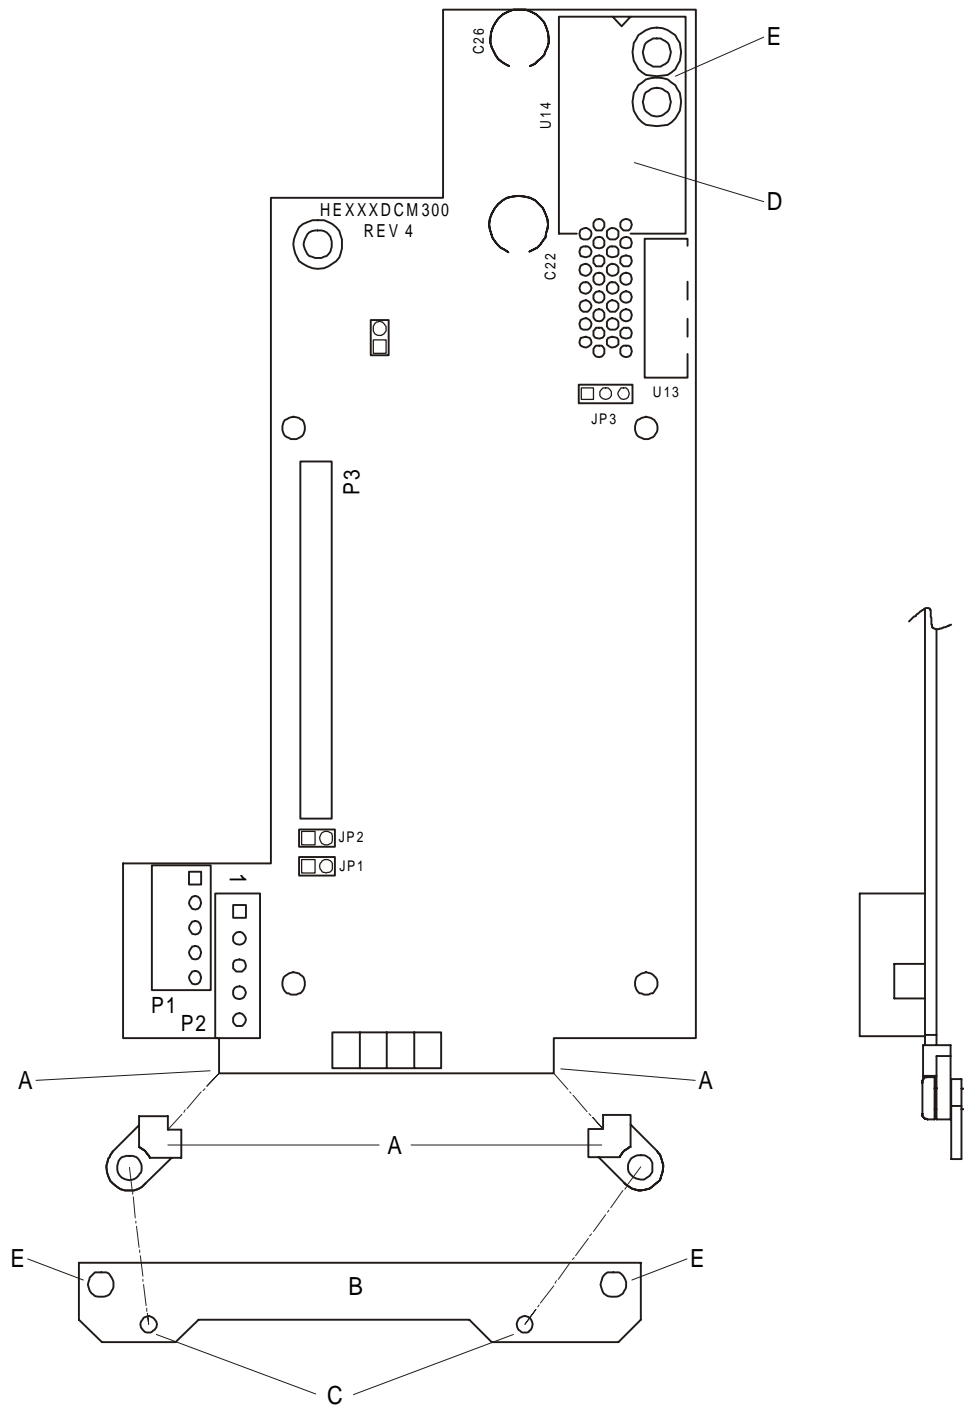

Figure 2.7 – Option Board Assembly (Front and Side View)
2.3 N2 Cable Connector (Refer to Figure 2.7 for Plug Location.)
2.4 Local/Net Contact Connection (Refer to Figure 2.7 for Plug Location.)